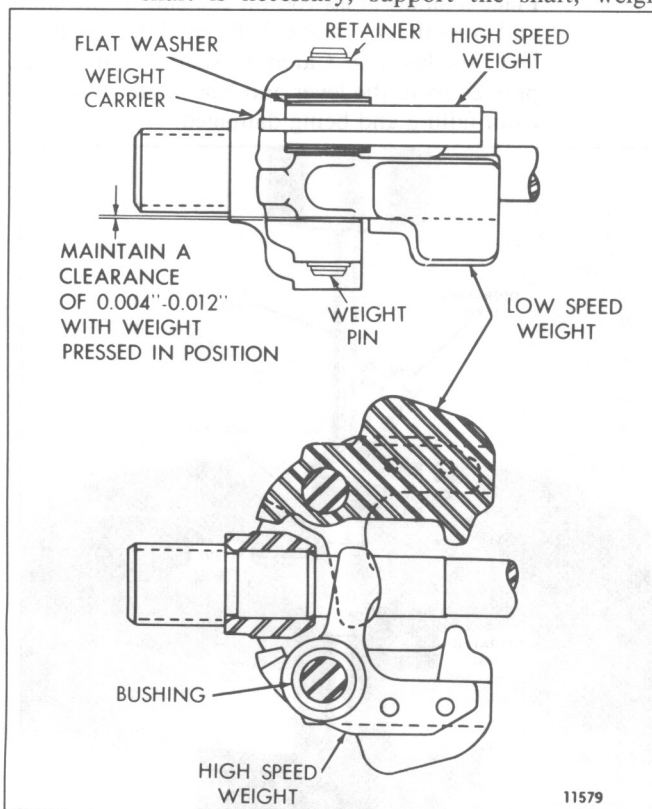

Fig. 12 – Cross Section of Governor Weight Assemblies (Turbocharged Engines)
- a. If removal of the weights from the carrier is necessary, remove the retainers and press the weight pins from the low-speed weights (Fig. 12). The high-speed weights are not a press fit.